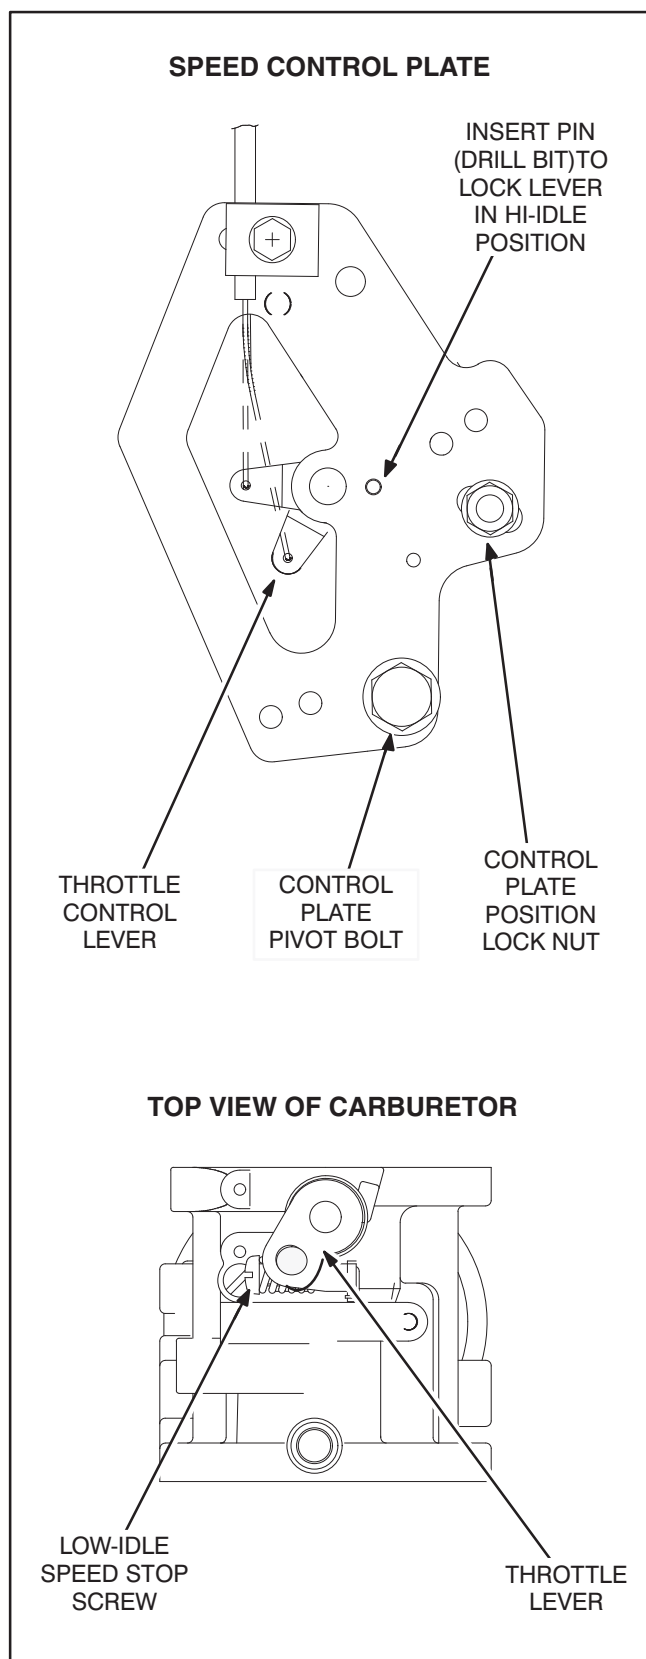

FIGURE 9. ENGINE SPEED ADJUSTMENTS
1. Remove the outer air cleaner cover (Page 12) for access to the low-idle speed screw (Figure 9).
3. While holding the throttle lever against the low-idle speed stop screw on the top of the carburetor (Figure 9), turn the screw to obtain the specified low-idle speed.